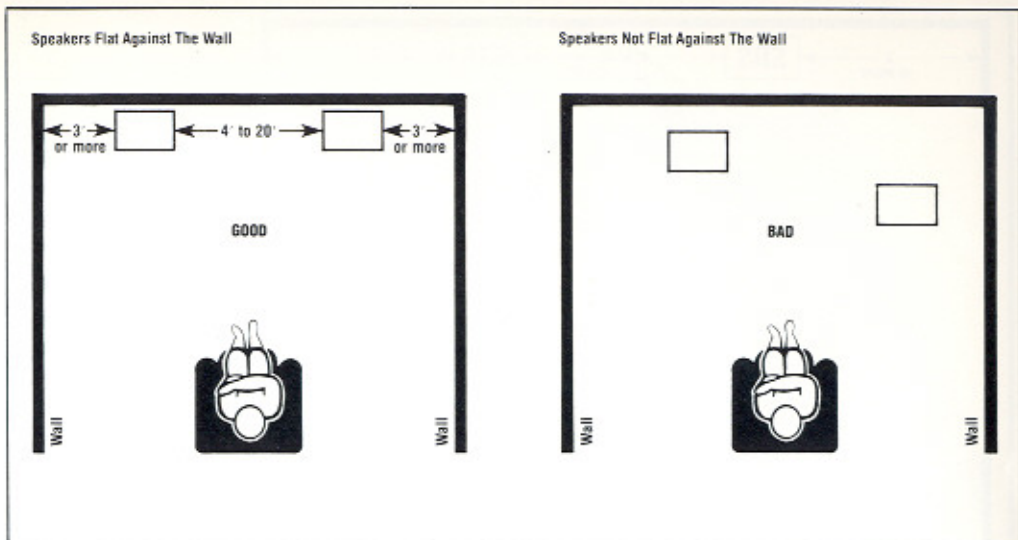

FIGURE 2. Speaker Placement
1. Place both speakers against the same wall facing straight forward. DO NOT ANGLE SPEAKERS INWARD OR OUTWARD. The design of the SDA-SRS requires that they be flat against the same wall and face straight forward. (To make sure both speakers are facing exactly straight forward, have a friend hold a string taut at the top, outside, front corner of one speaker while you hold the other end at the top, outside, front corner of the other speaker. Line up the fronts of the two cabinets parallel to the taut string.) See Figure 2.